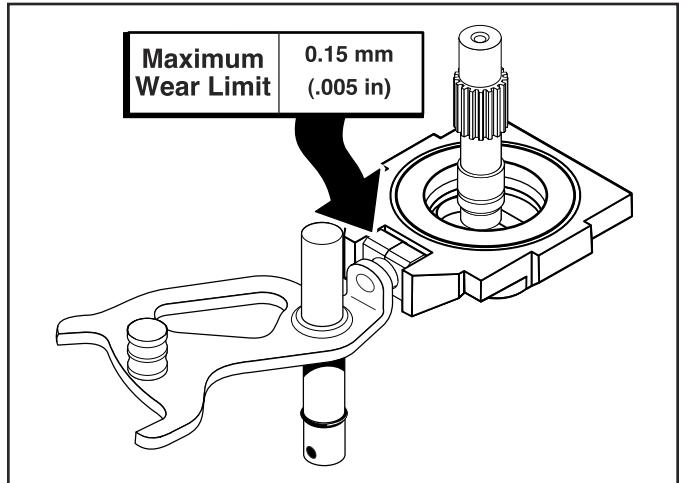

Fig. 34, Shift Blocks Clearance Tolerance
- Before removing the Swash Plate Assembly measure the clearance (using Feeler gauge) between edge of Swash Plate's Slot and the Shift Blocks. If the clearance (gap) is > 0.15 mm (0.005 in), replace both Shift Blocks and the Swash Plate Assembly, simultaneously. (Fig. 34)